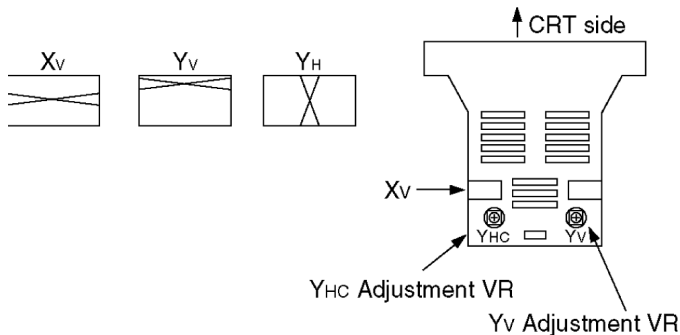

Fig. 14
b. YHC, YV, XV, Adjustment (Fig. 14)